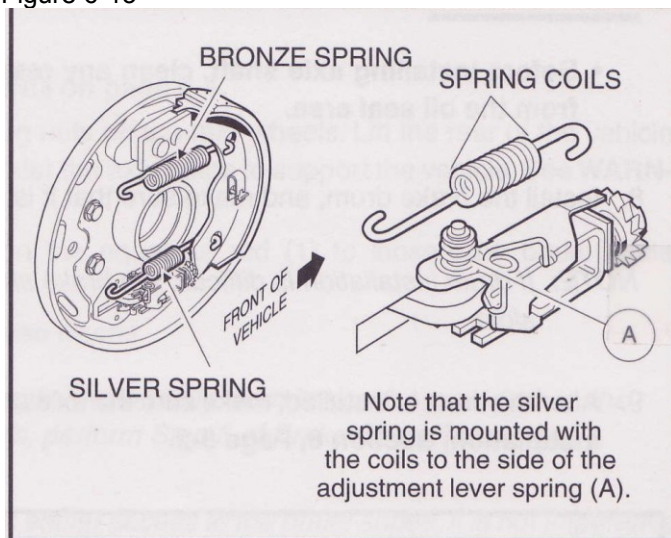

Figure 6-14
3. Attach the springs onto the trailing shoe already installed. Then hold the leading shoe next to the trailing shoe, correctly oriented, and attach the spring to it (Figure 6-14)